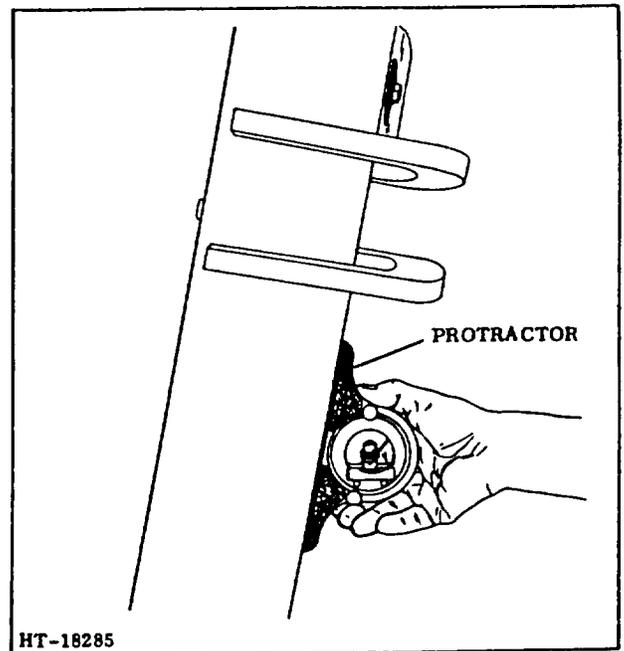

Figure 10. Checking Degrees of Mast Tilt
2. Bubble in level of protractor should center if degree of backward tilt is correct (Figure 10).